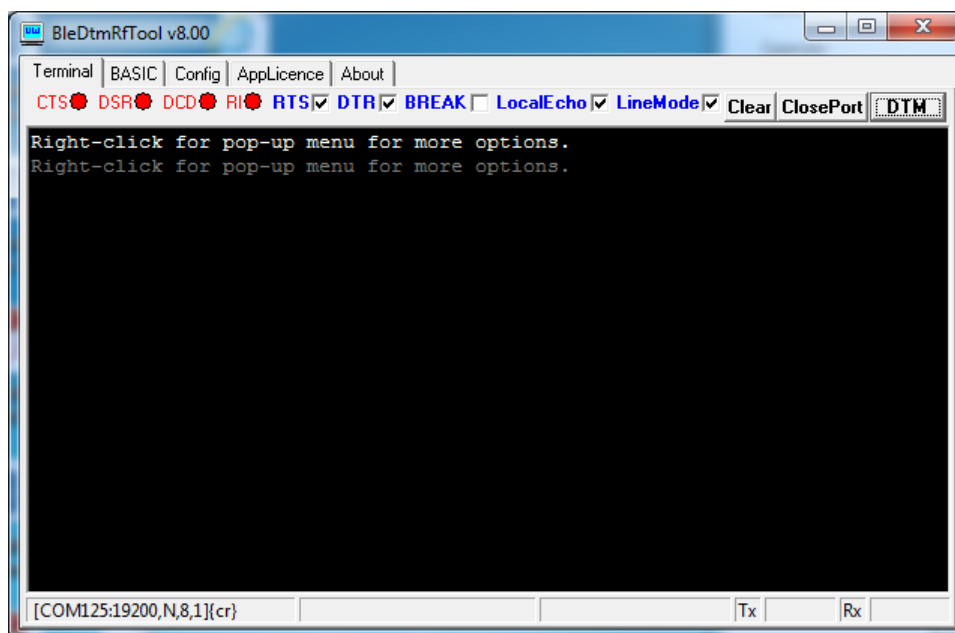

Figure 7: BleDtmRfTool
2. In BleDtmRfTool, click **DTM** button located in the top right to open the Direct Test Mode panel as shown in Figure 7.